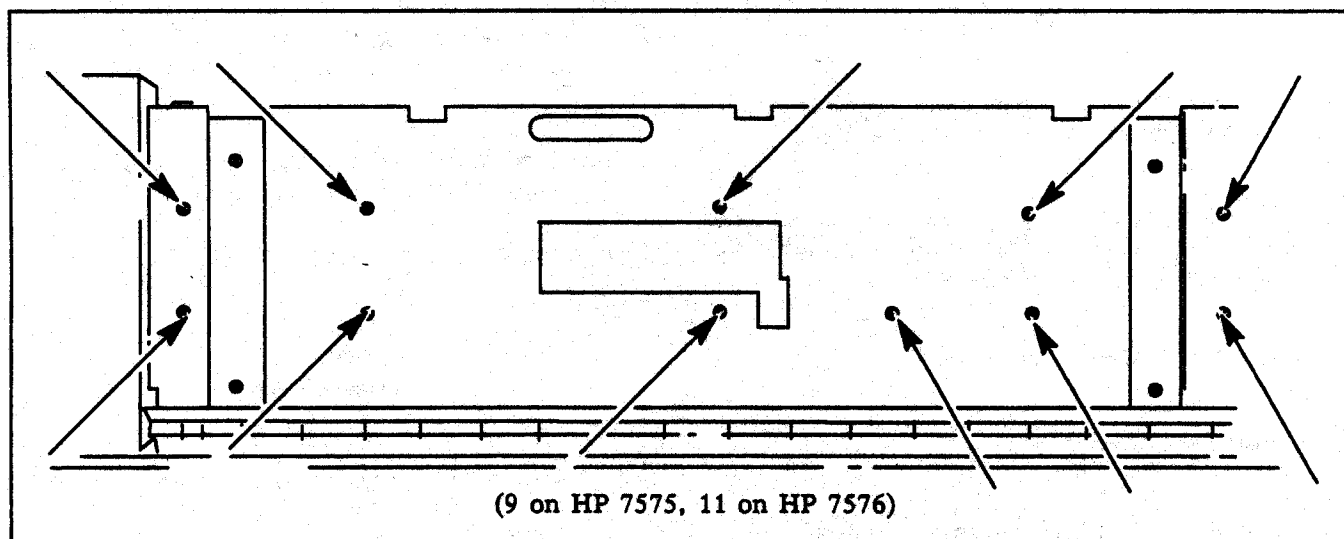

Figure 6-36. Datum Bar Removal
- w. Remove the Torx screws securing the datum bar to the plotter chassis pan. See Figure 6-36.